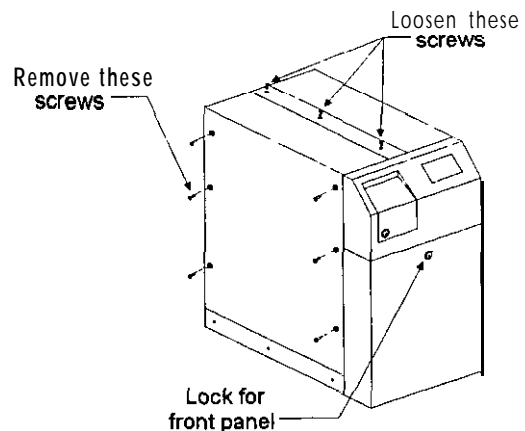

Figure 1
203. **4.3 to 18 KVA models:** Use the FERRUPS key to unlock the lock in the middle of **the front** panel. (See Figure 1.) Remove the panel. If the unit has a DC switch behind the front panel, **turn** it off. Turn off the DC switch at each **battery** cabinet.
204. **4.3 to 18 KVA models:** Loosen the three (3) Philips screws on the bar across the top of **the** UPS. (See Figure 1.)
4.3KVA to 18KVA: Remove the screws on each side of the UPS. (See Figure 1 on page 3.) Slide each cover out from under the bar and lift the covers to remove them from the UPS.